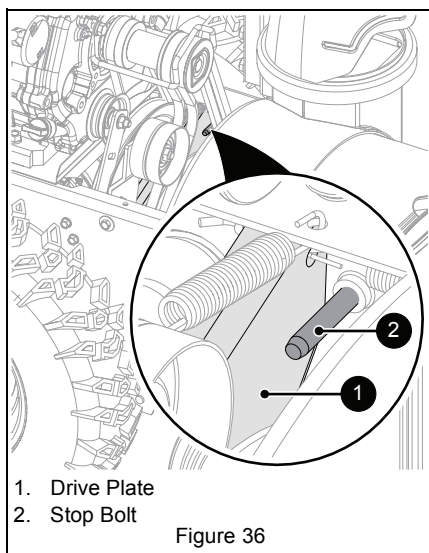

Figure 36
4. With traction clutch disengaged, check that the drive plate touches the stop bolt. See Figure 36.